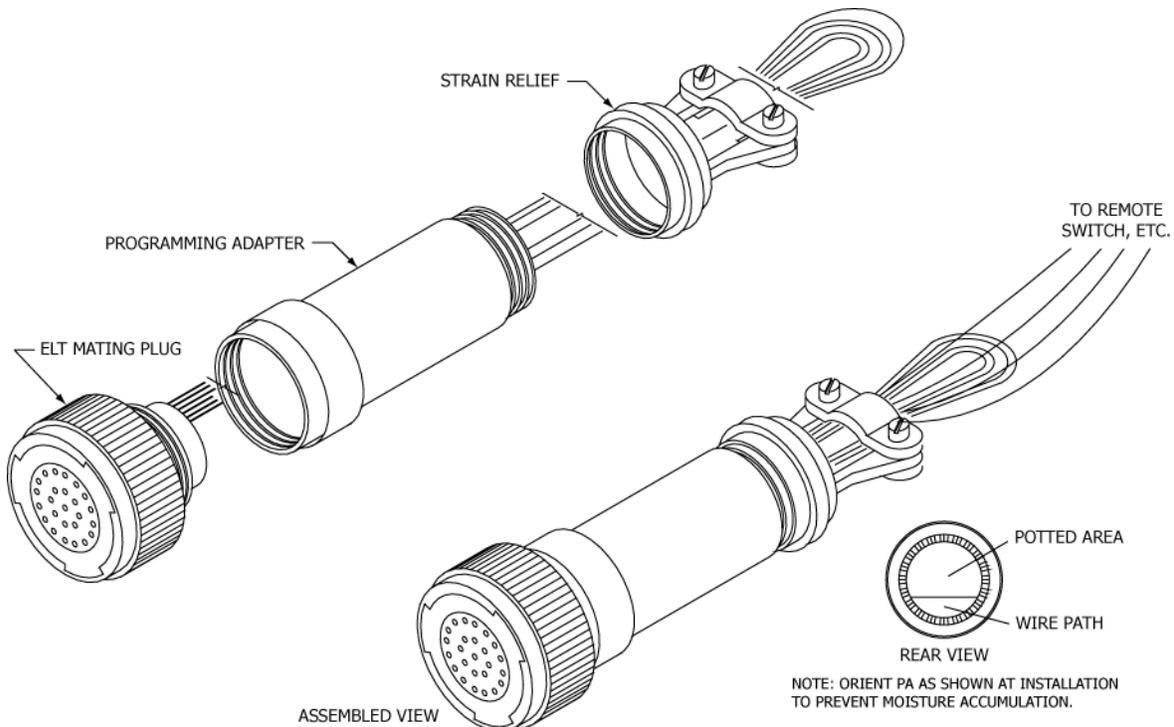

Figure 26 Programming Adapter
- 2) The PA circuitry is encapsulated in the back shell extension and has four wires, with pre-installed contact sockets, that exit the rear of the PA. See Figure 26.
- 1) Screw the PA body (i.e. back shell extension) onto the ELT plug, taking care not to twist the wires while rotating the back shell extension coupling. See Figure 26 for PA body orientation.